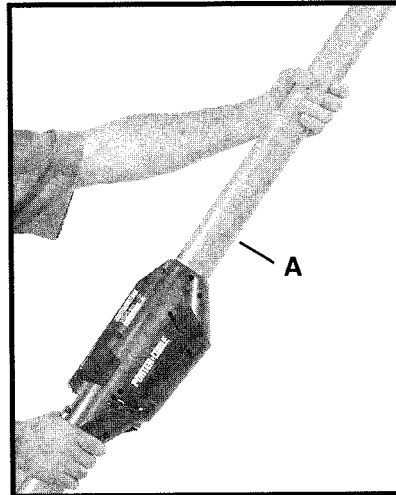

Fig. 1
The Drywall Sander should be held with both hands on the main tube (A) Fig. 1. The hands may be positioned anywhere along the main tube to provide the best combination of reach and leverage for the particular application.
**CAUTION: Keep your hands on the main tube (A) Fig. 1. Keep away from the sanding head area. The sanding head swivels in multiple directions and could pinch your hand.**